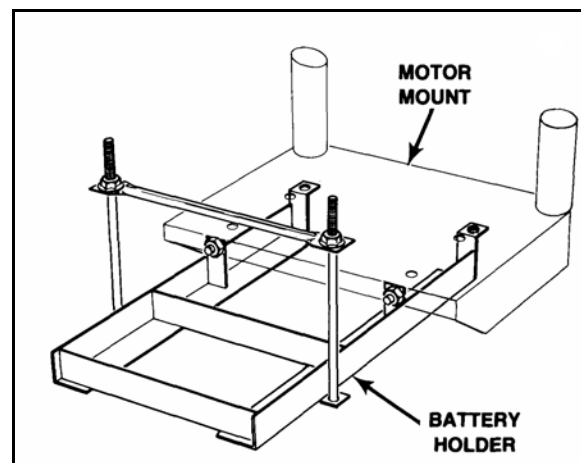

Figure 3.20
18. For augers with electric-start gas engine, a battery holder can be installed with two 7/16" x 1" bolts and locknuts and two engine mounting bolts (Figure 3.20).